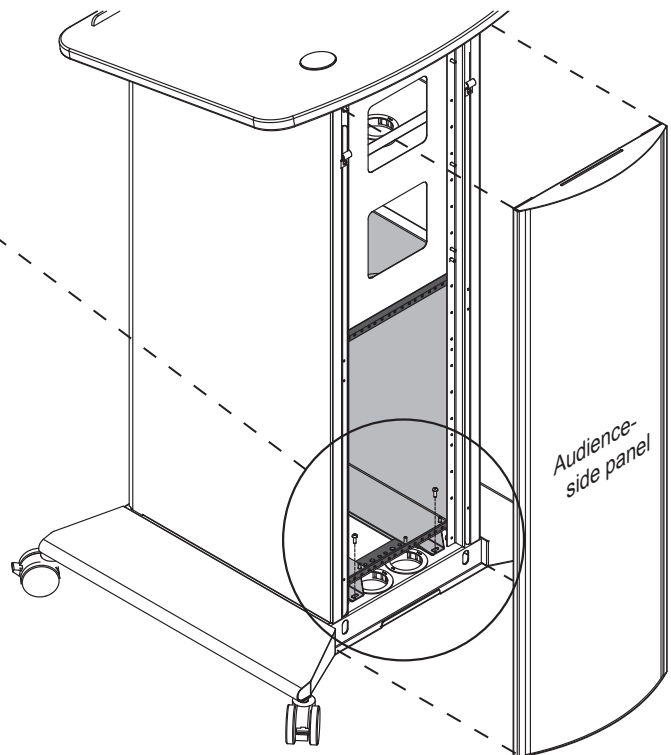

Figure 3.2
2. If the cube needs to be secured to the lectern, remove the audience-side panel. (Lift up, then out). **Figure 3.2.**